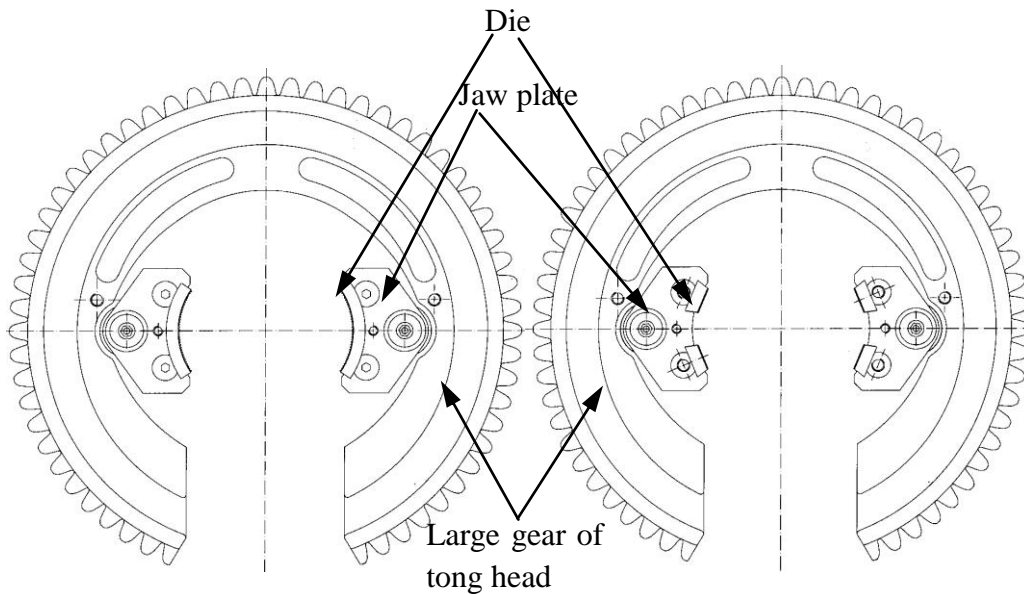
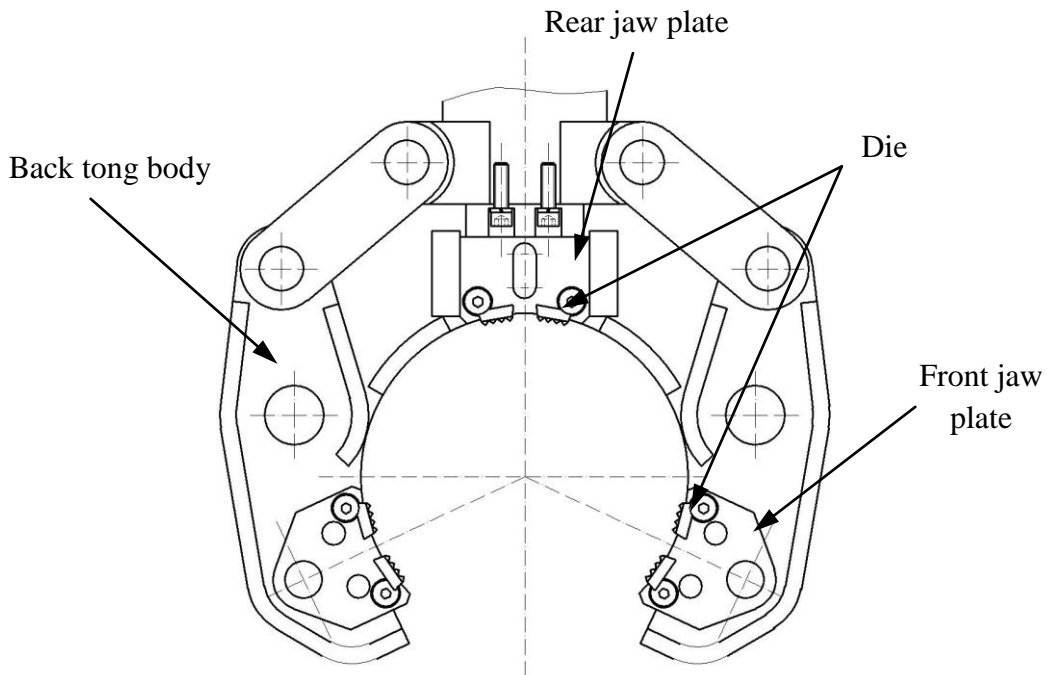

Figure 2 Tong head and jaw plate of the master tong
Figure 3 Back tong body and jaw plate
1. Learn specifications of jaw plates and Die: jaw plates of master tong has 6 specifications and jaw plates of back tong has 7 specifications. Each specification has three jaw plates including 2 front jaw plates and one rear jaw plate (as shown in Figure 2 and Figure 3). The front two jaw plates are the same and may be installed on the left and right. During installing jaw plate, it is necessary to check whether Die is worn or clean. It is necessary to tighten fixation bolts of Die.